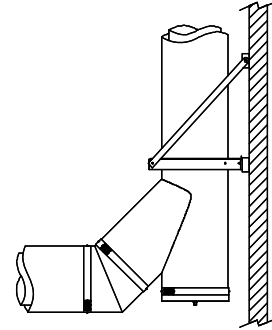

Figure 12 - Smooth 90° Turn
- For systems where flow resistance must be minimized like engine or turbine exhaust. The use of a 45° tee is suggested. It can be combined with a 45° elbow to make a smooth 90° turn (see **figure 12**). To support this tee, use similar method as a 90° tee.